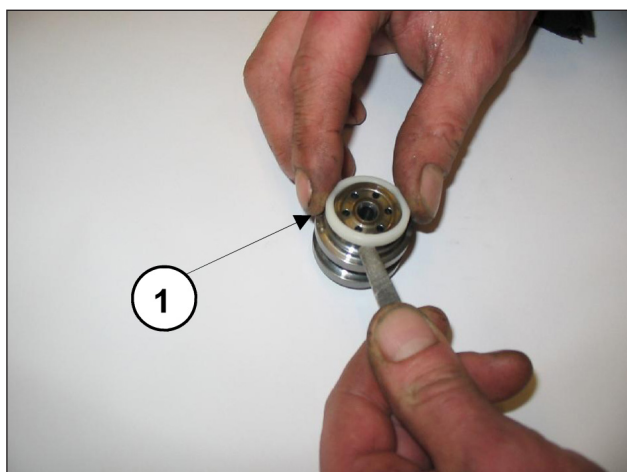

Fig. 43
- Extract the valve seats ① as shown in Fig. 43, check the various components for wear and replace them if necessary.